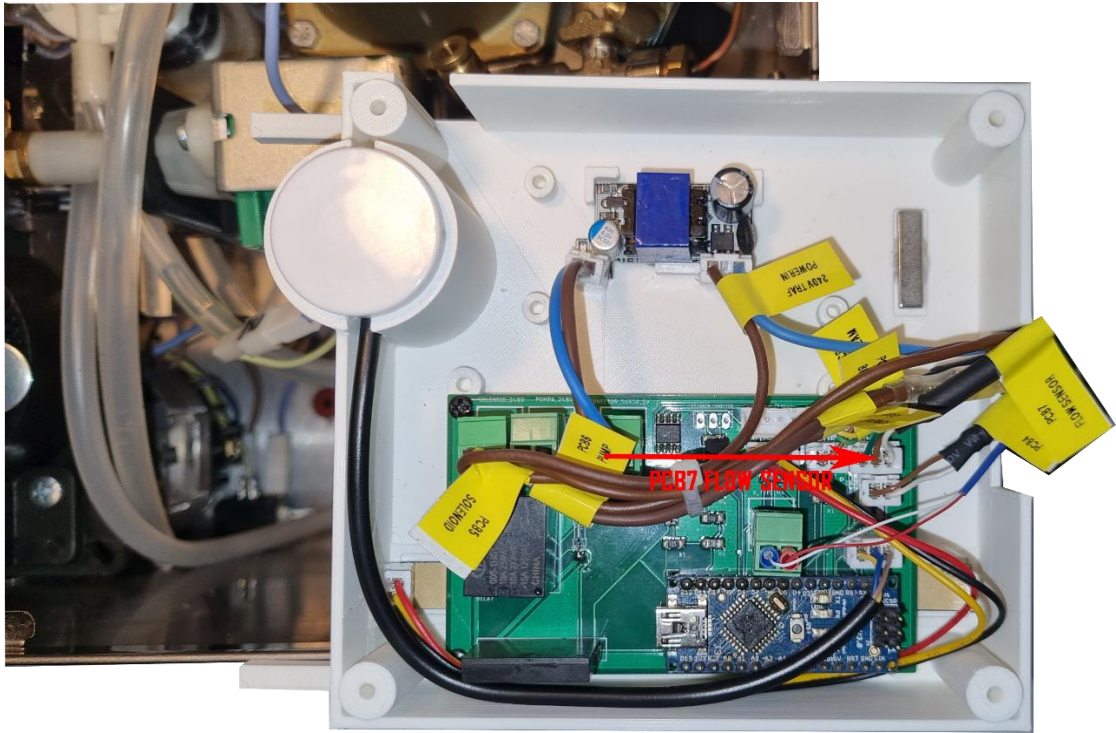

Fig.6.8
- Plug in the FLOW METER CABLE - PCB plug (PCB7 FLOW SENSOR) and let the rest of the cable outside the case through the big hole (fig. 6.8)